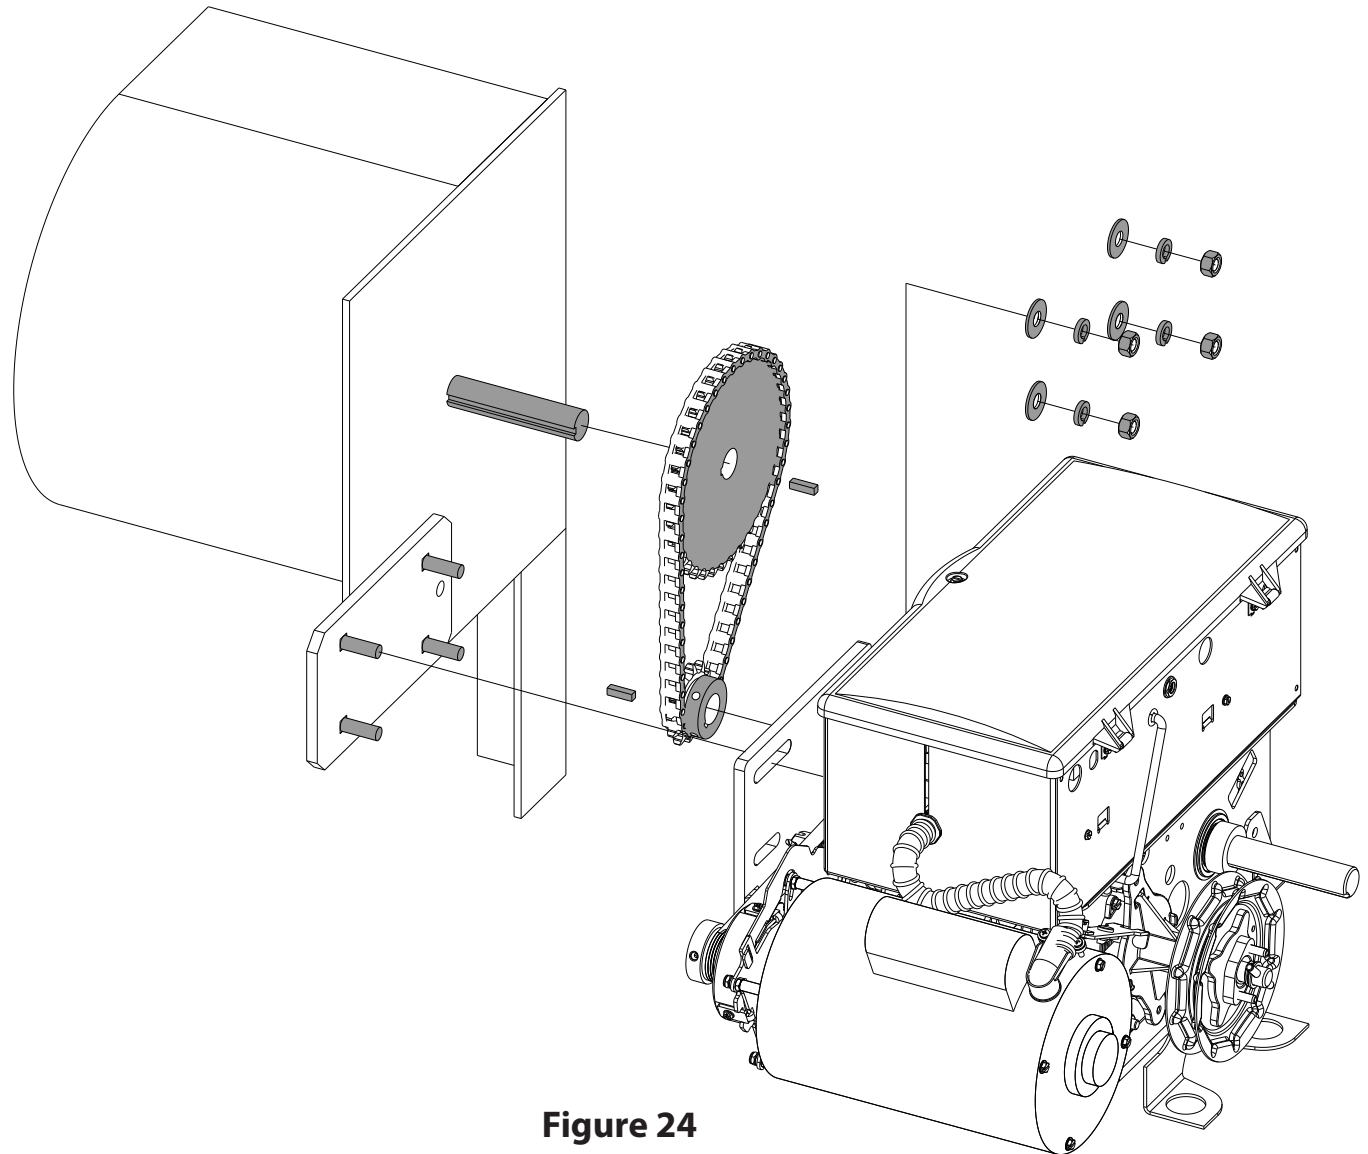

Figure 24
- Mount operator assembly to weld plate and install mounting hardware, do not tighten. See Figure 24